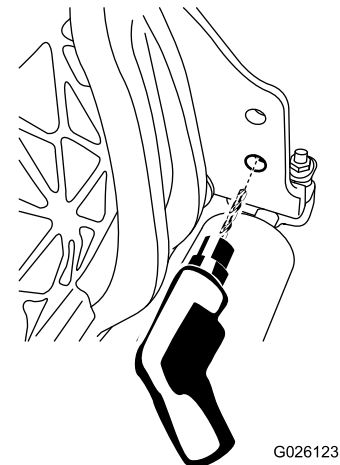

Figure 14
- Enlarge the lower hole on the right side of the cutting unit using a 9 mm (23/64 inch) drill bit (Figure 14).